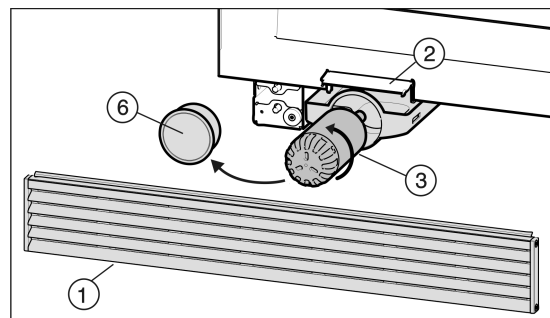

Fig. 5
- lift the ventilation grid *Fig. 5 (1)* up and pull out.
- Open the filter change flap *Fig. 5 (2)*.
- Pull the water filter carriage *Fig. 5 (3)* out.
- Remove the filter cover *Fig. 5 (6)*.
- Turn the water filter *Fig. 5 (3)* about 100° anti-clockwise and pull out.